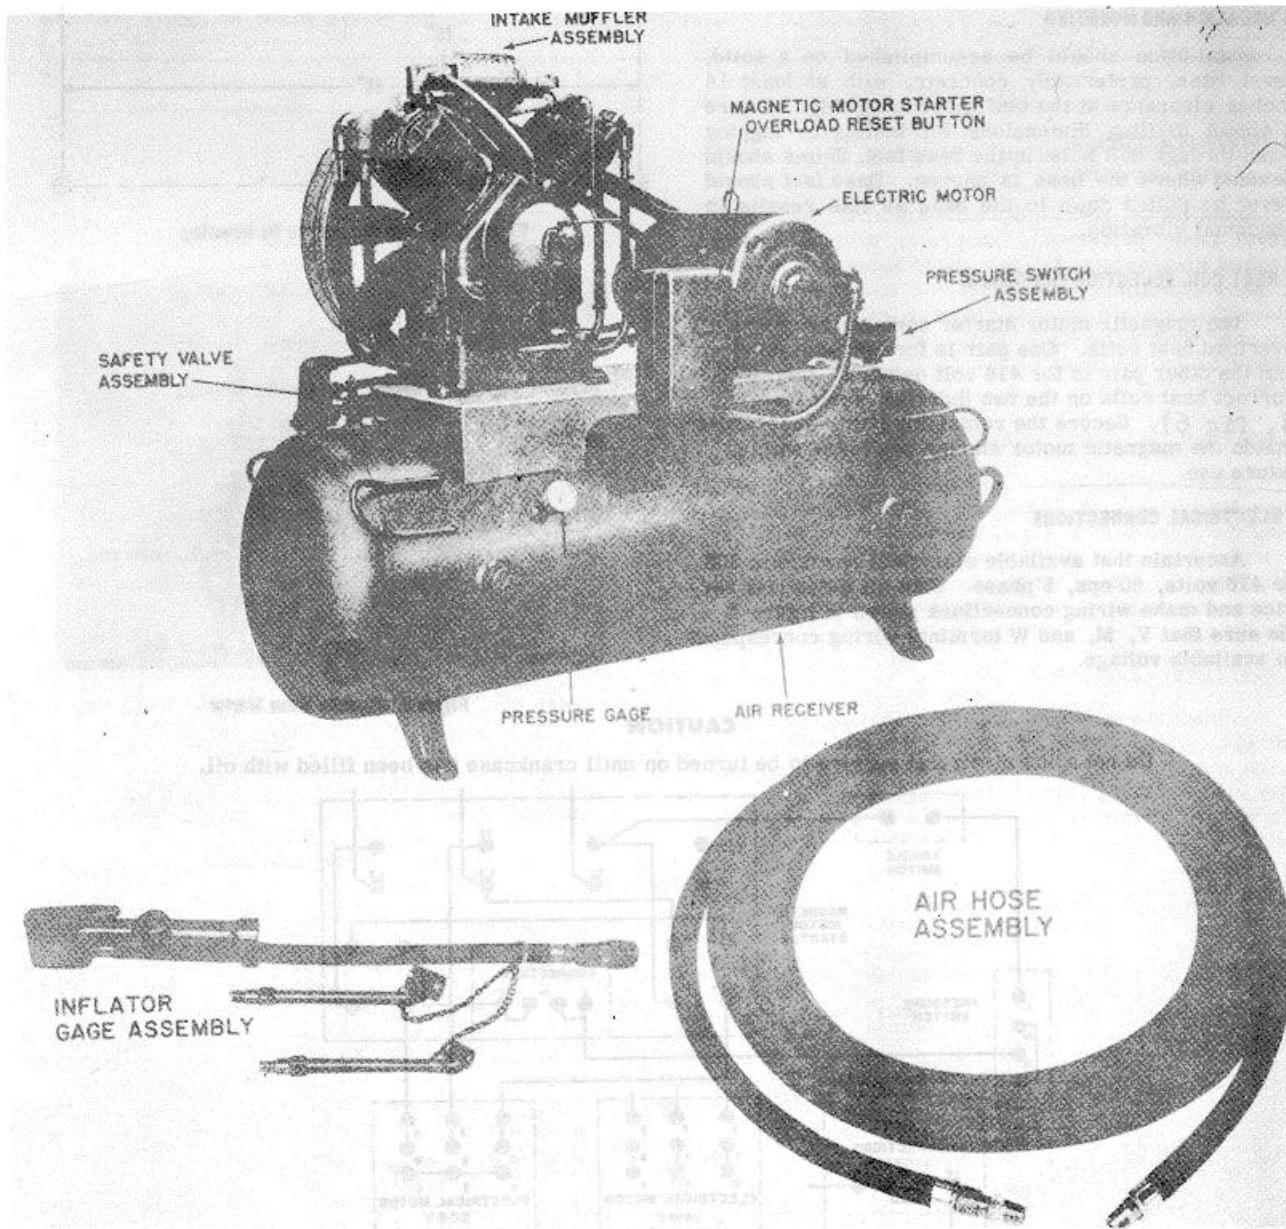

Figure 1. HR7-8M-1 Air Compressor
The HR7-8M-1 (figure 1) is a four cylinder, reciprocating type air compressor capable of delivering 25 cubic feet per minute. The compressor assembly and associated electric motor are mounted on a frame which is welded to the air receiver, an 80 gallon steel tank. The electric motor drives the compressor assembly by means of a matched pair of V belts associated electric motor are mounted on a frame which is welded to the air receiver, an 80 gallon steel tank. The electric motor drives the compressor assembly by means of a matched pair of V belts.
- a. Connect air hose (see fig.1) to globe valve (16, fig7) and connect inflator gage assem. (fig.1) to air hose.